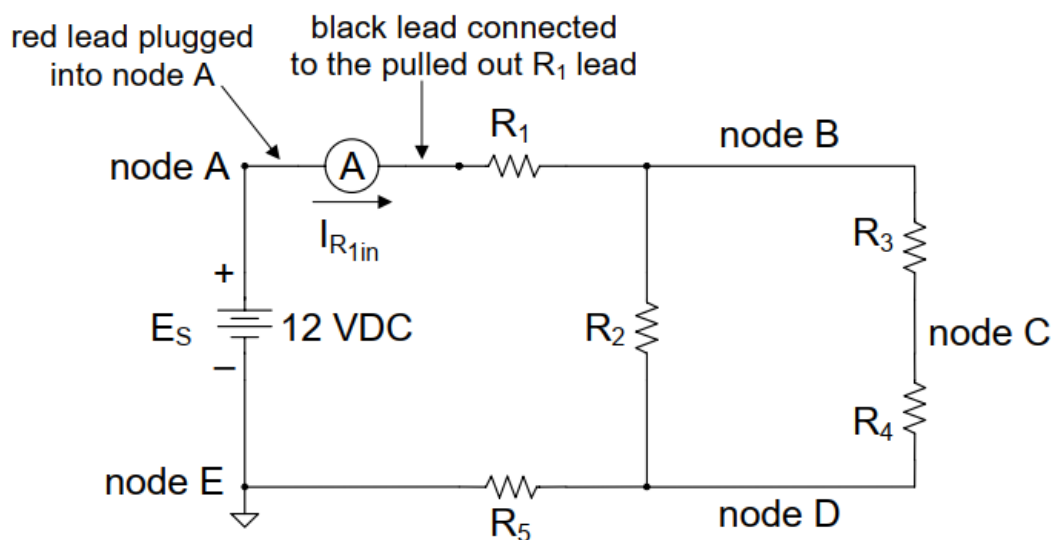

Figure 3. – Modification Circuit for Measuring Current I_{R1}
7. Now use the DMM to measure the current (I_{R1}) that flows through R_1 from Node A, by performing the following actions to modify the circuit as shown in **Figure 3.**, below:
- c. Connect the black (LO) lead of the DMM to the end of the resistor (that is, the disconnected lead of the resistor)
- d. Connect the red (I) lead to a piece of hook-up wire and plug the hook-up wire into the breadboard hole out of which you just pulled the R_1 lead
8. By performing these actions, you have modified the circuit as shown in **Figure 3.**, above. The DMM configured for DC current measurement is represented by a symbol that looks like a circle containing the letter “A”, which is a standard schematic symbol for an ammeter.
9. We expect that I_{R1} flows in the direction shown by the arrow in **Figure 3.**, therefore the DMM has been connected so that the expected current will flow into its “I” terminal (red lead) from Node A and out of its “LO” terminal (black lead) to R_1 . If the current does flow in this direction (as it should), the DMM will display a positive value, but if it flows the other direction, then it will display a negative value. This is not harmful to the DMM.